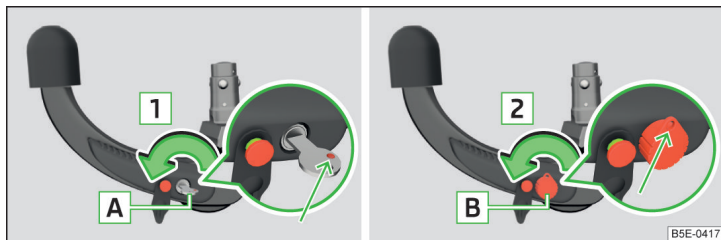

Fig. 179 First Step: Key Version 1 / key Version 2
- Turn key **A** in the direction of arrow **1** so that the red marking is pointing upwards » Fig. 179.
- Turn the key in the direction of arrow **B** **2** so that the conclusions release shows up » Fig. 179.